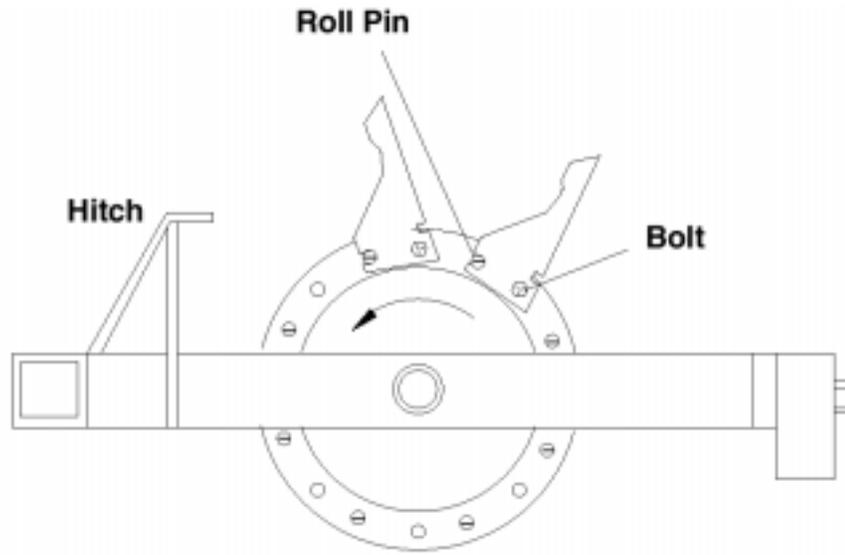

Figure 1
2. Start at the outside casting and install the tines as shown. Install all 8 tines on the casting making sure the roll pin is in the front position (Fig. 1). Use 1/2" x 1-3/4" bolts for the second hole and secure tightly.